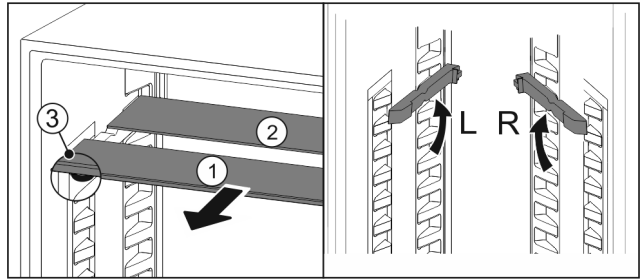

Fig. 128
- ▶ Pull the glass panels out Fig. 128 (1) from the front, one at a time.
- ▶ The glass panel Fig. 128 (1) and trim strip are at the front.
- ▶ The stops Fig. 128 (3) point down.